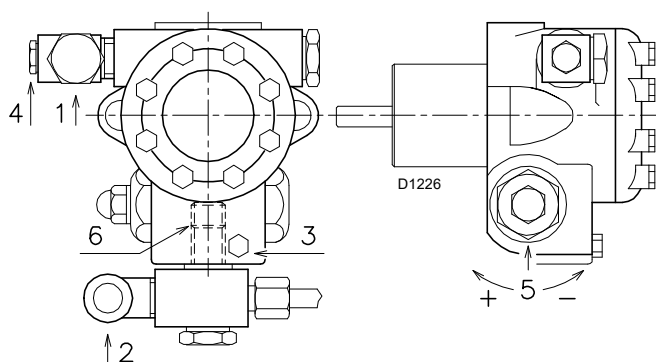

Fig. 21
- In order for self-priming to take place, the screw 3)(Fig. 21) of the pump must be loosened in order to bleed off the air contained in the suction line.